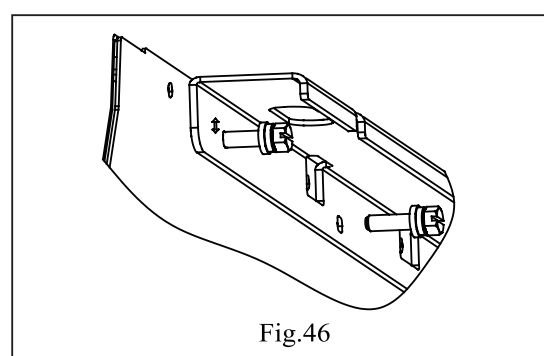

Fig.46
- Suspension bolt stays inside the cap of the indoor unit .Never remove the cap. Lift the unit and slide the hanger bracket in the way that the holes on it will match with the corresponding bolts. (See Fig.46)